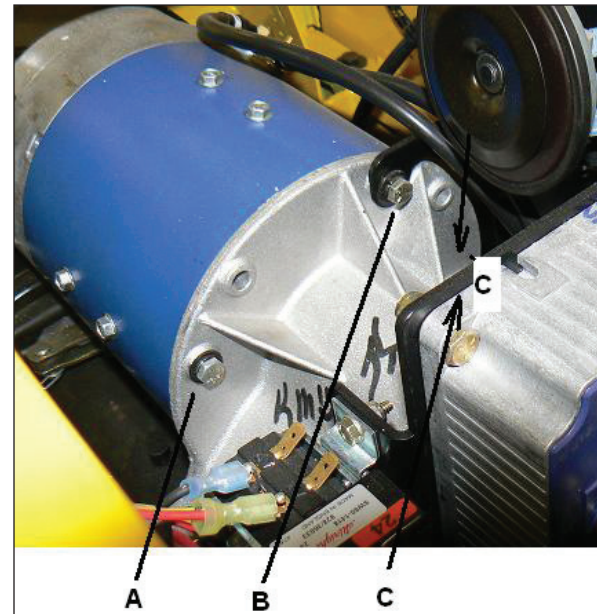

Figure 10-19. Motor Attaching Bolts
2. Rotate motor to align bolt holes in motor to axle as shown in Figure 10-19. Install 3 bolts securing motor